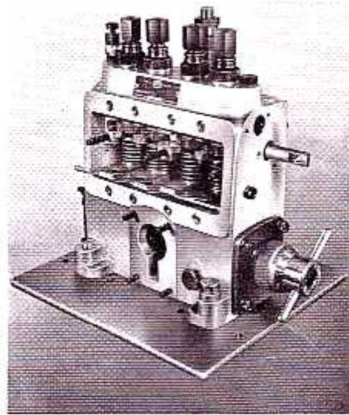

FIG. 17. CHECKING CAMSHAFT END FLOAT USING GAUGE 7044/934
30. Check the camshaft end float using gauge part no. 7044/934 (Fig. 17). End float must be 0.05 to 0.1 mm with either ball or tapered roller bearings and 0.1 to 0.2 mm when parallel roller bearings are fitted. The amount of end float is controlled by the thickness of the shims. Turn camshaft by hand several times to ensure that it is free.